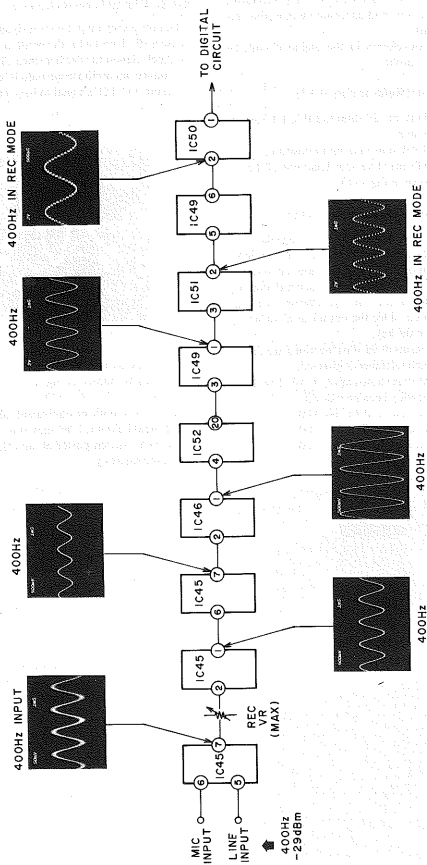

Fig. 4-13 Input Waveform of Input Diagram
4-7-1. Input Circuit (Refer to Fig. 4-13)
- 3) The voltage waveforms at various locations of the input circuit are shown in Fig. 4-13.